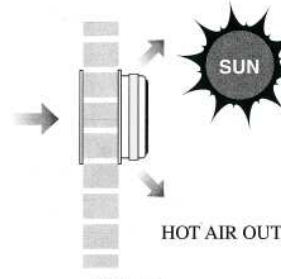

FIG. 5
1. Find out the best location and direction where there is maximum sunlight for the unit, and face the sunlight directly. The more sunlight it receives, the more power for the ventilator to run efficiently. (see fig 5).
1. Find out the best location and direction where there is maximum sunlight for the unit, and face the sunlight directly. This ventilator can be fixed to any angle position. Fix the ventilator to face sunlight directly. The more sunlight it receives, the more power for the ventilator to run efficiently. (see fig 5)